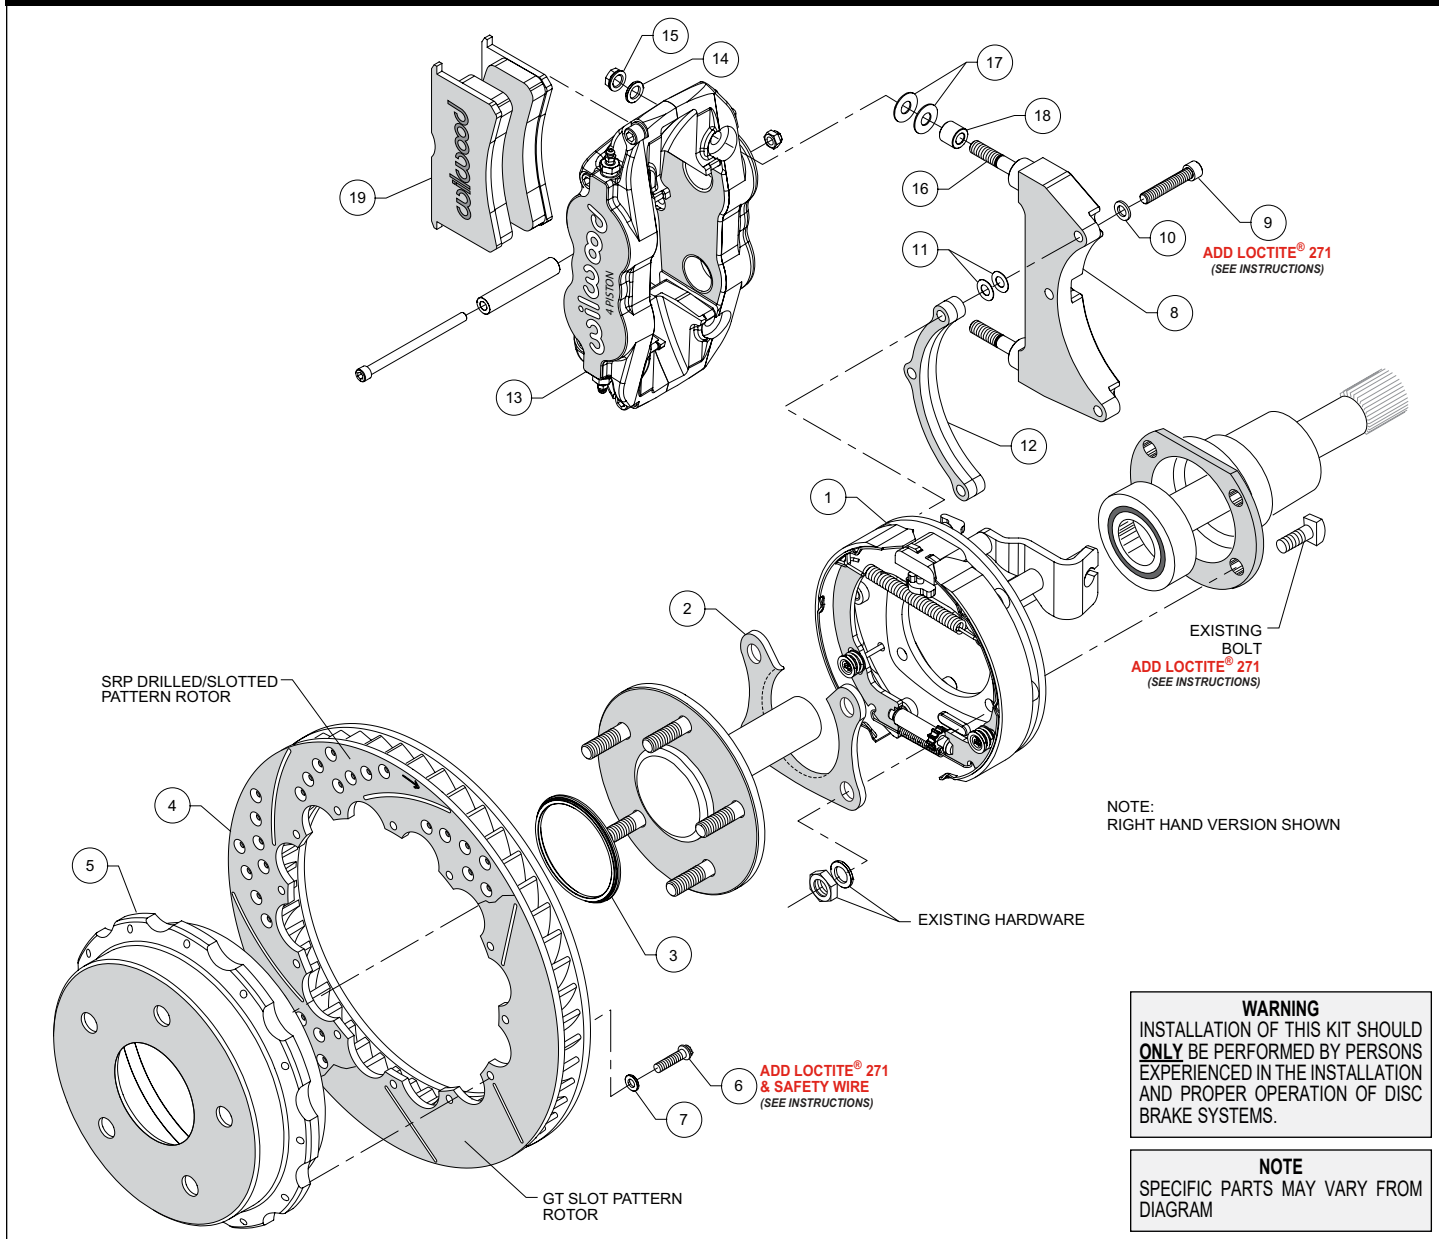
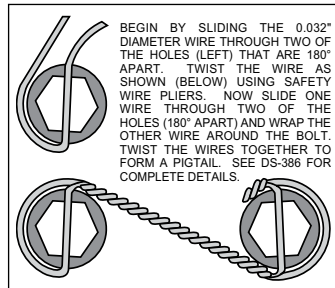

Figure 1. Typical Installation Configuration
Figure 5. Safety Wire Diagram
Assembly Instructions (numbers in parenthesis refer to the parts list, and Figure 1 on the preceding pages): **CAUTION:** All mounting bolts must fully engage clinch nuts. Be sure to check that all bolts are either flush or protruding through flanged side of clinch nut after shimming.
- Orient the bracket assembly (1) as shown in Figure 1 and Photo 1 and slide it onto the axle. Insert the axle and bracket into the axle housing. Ensure that the bracket assembly backing plate fits flush against the axle housing flange.
- Install the bearing retainer (2) with the opening pointing upward and the lip facing inward (toward the bearing), as shown in Figures 1 and 4, and Photo 2. Secure retainer and bracket assembly to the axle housing flange using the Original Equipment Manufacturer (OEM) bolts, washers, and nuts, Figure 1. Apply red *Loctite*® 271 to the OEM bolt threads and torque to OEM specifications.
•**NOTE:** Please reference the caution statement at the beginning of the assembly instructions. The caliper mounting bracket (8) should initially be installed with clean, dry threads on the mounting bolts. Orient the bracket as shown in Figure 1 and Photo 3, and install using bolts (9) and flat washers (10). Initially place two .015" shim washers (11) on each bolt between the bracket (8) and spacer (12), Figure 1. Temporarily tighten the mounting bolts. **NOTE:** End of bolt should not exceed inside face of insert. The bracket must tighten squarely against the back side of the bracket kit assembly (1). Inspect for interference from casting irregularities, machining ridges, burrs, etc. Later, after the caliper alignment has been checked, the mount bolts will be secured using red *Loctite*®.
•Orient the rotor (4) and the hat (5) as shown in Figure 1 and Photo 4. Attach rotor to hat using bolts (6) and washers (7). Apply red *Loctite*® 271 to the bolt threads and torque to 140 **in-lb** using a criss-cross pattern. For an added measure of security, the bolts may be safety wired using standard 0.032 inch diameter stainless steel safety wire as shown in Figure 5. Please refer to Wilwood's data sheet DS-386 (available at www.wilwood.com/Pdf/DataSheets/ds386.pdf) for complete safety wire installation instructions.
•Slide the rotor registration adapter (3) onto the axle register on the axle flange with the smaller O.D. facing toward the rotor/hat (4/5), Photo 5. Align the hole pattern in the hat with the stud pattern on the axle flange and slide into place, Figure 1 and Photo 6. **NOTE:** The rotor/hat must fit flush against the axle flange or excessive rotor run out may result. Install three lug nuts (finger tight) to keep the rotor/hat assembly in place while continuing with the installation. **NOTE:** Some OEM and after market axles come with stud sizes larger than 0.50" diameter. Verify stud size and have a qualified machine shop drill the bolt circle of the hat/rotor to the correct stud size, if necessary.
•Initially place two .035" thick shims (17) and spacer (18) on each stud as shown in Figure 1 and Photo 7. Mount the caliper (13) onto the bracket (8) using lock nuts (15) and washers (14), Figure 1. Temporarily tighten the lock nuts and view the rotor through the top opening of the caliper. The rotor should be centered in the caliper, Photo 8. If not, adjust by adding or subtracting shims (11) between the bracket (8) and the spacer (12). Always use the same amount of shims on each of the three mounting bolts. Once the caliper alignment is correct, remove the bracket mounting bolts (9) one at a time, apply red *Loctite*® 271 to the threads, and torque to 180 **in-lb**.